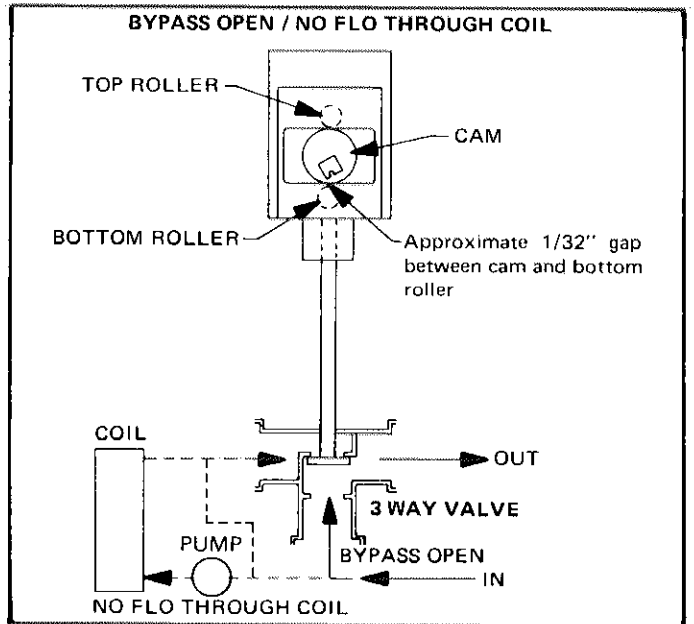

FIGURE 50
- 2 - Remove wire from LO terminal on EA3. Put jumper across C and F terminals on motor. Motor should rotate clockwise lifting valve stem. Refer to Figure 50.